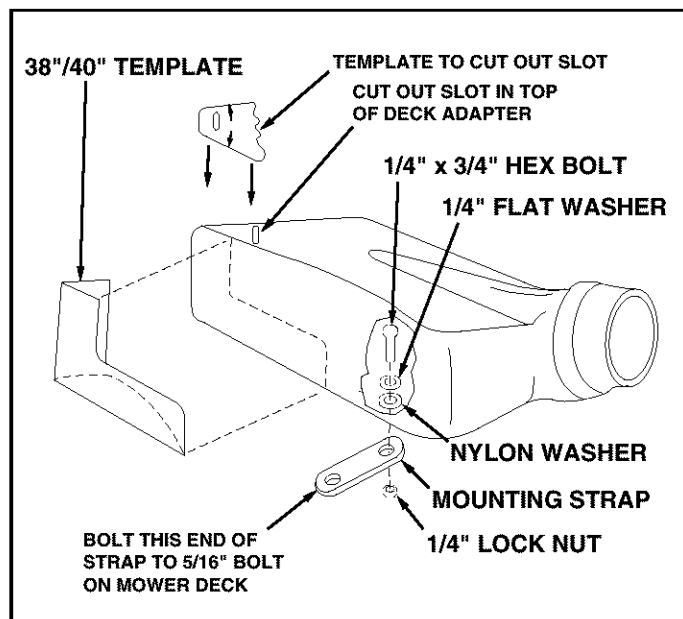

FIGURE 27
- Bolt end of mounting strap to the 5/16" bolt on the mower deck. The other end of the strap will bolt to a hole in the deck adapter, which must be drilled. Position the adapter on the deck, then drill a 5/16" hole in the bottom of the adapter that will align with the hole in the strap. Fasten the adapter to the strap using one 1/4" x 3/4" hex bolt, 1/4" flat washer, nylon washer and 1/4" hex lock nut. See figure 27.